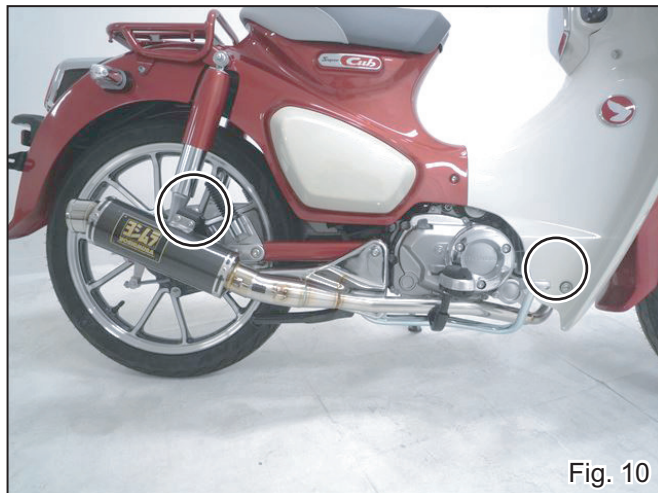

Fig. 10
- 10) Check that there are proper clearances between Yoshimura exhaust system and other components. Then, tighten and torque nuts on Exhaust Pipe, Button Bolt M8x30 and Button Bolt M6x20 on Silencer Bracket in order. (See Fig. 10)